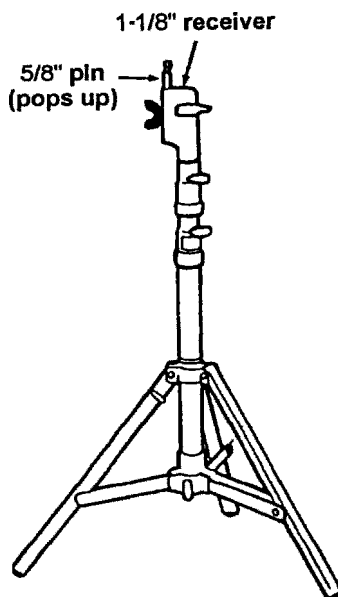

Figure 2.61 Low-boy stand.
1. A low-boy stand is nothing more than a combo/light stand—only lower (Figure 2.61).